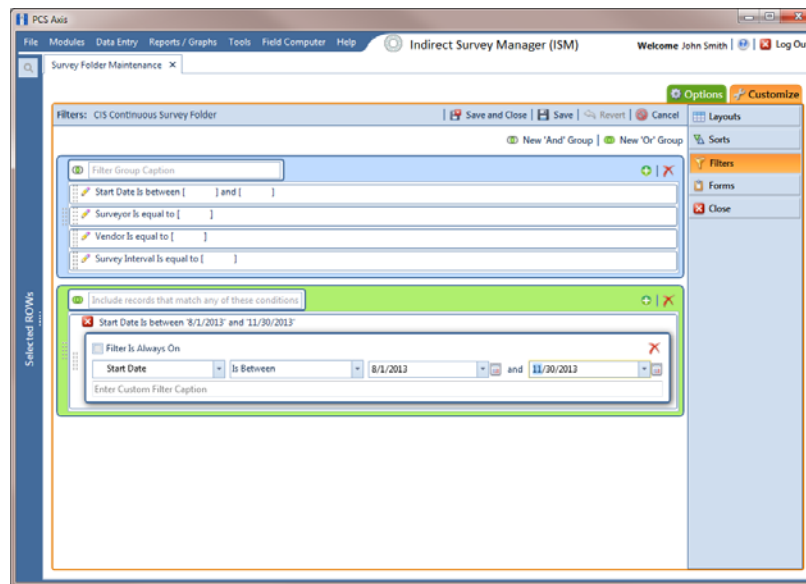

Figure 6-20. Filters
- 6 Click the **Filters** button  to open the *Filters* page. Then click  **New 'Or' Group** to open a filter properties group box (Figure 6-20).
- 9 If the OR filter group includes a date filter, such as *Start Date Is Between* shown in Figure 6-20, set a date range using a calendar or dynamic dates in the following manner: